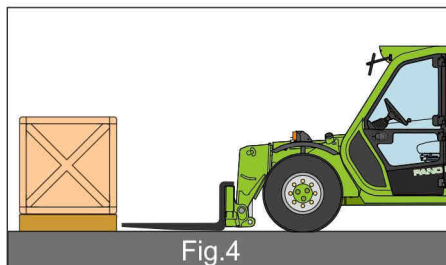
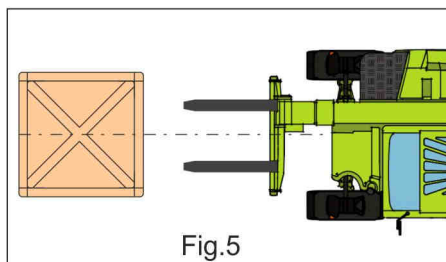

Fig.4
Fig.5
- position the machine near the load to be lifted with the telescopic boom completely retracted and the forks in a horizontal position (Fig.4)
- bring the gear direction switch (20) to position "N"
- regulate the width and centring of the forks in relation to the load to be lifted (Fig.5)
- tyre pressure and condition (figure 4)
- presence, function and good condition of the safety belt (figure 5)